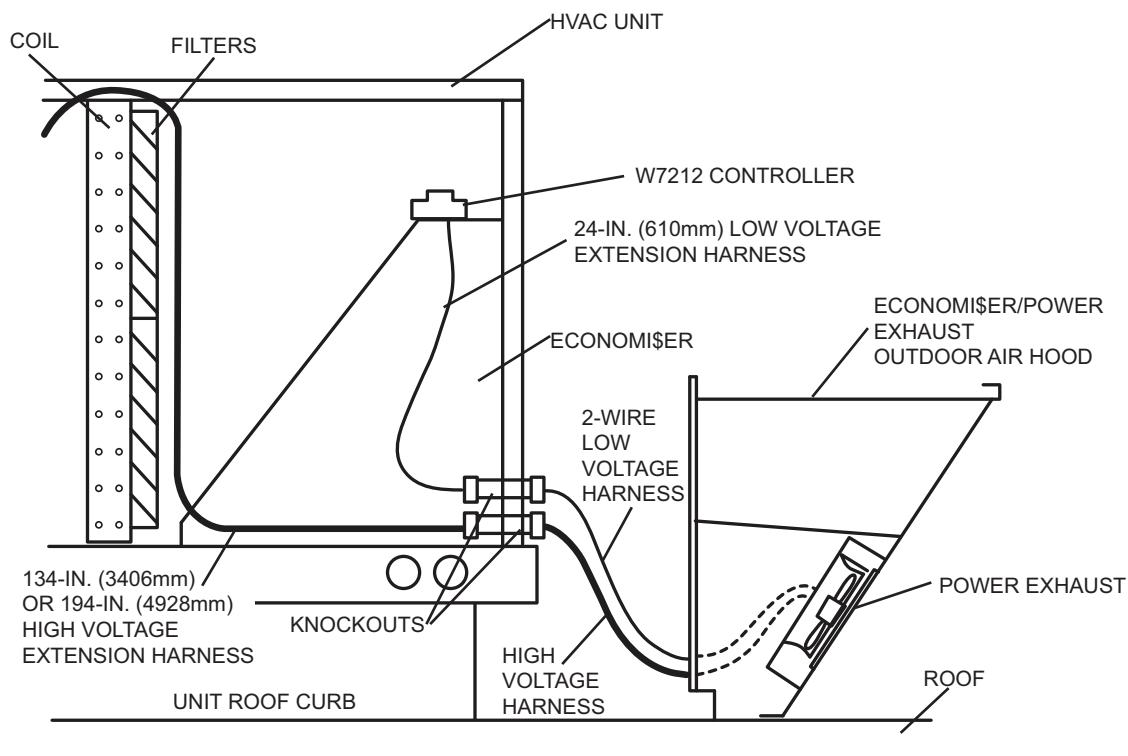

Fig. 4 — Power Exhaust Harness Installation for EconoMi\$er IV with W7212 Controller
4. *For EconoMi\$er IV:* Route the other end of the low voltage extension harness to the EconoMi\$er IV controller. (See Fig. 4.) The harness is connected to the controller by connecting the tan wire to the tan wire 24 VAC COM terminal on the controller. The terminal on the gray wire is connected to terminal EF1 on the controller. See Fig. 6 and 7 for EconoMi\$er IV wiring diagrams. Install the gray jumper wire on the controller from the exhaust fan terminal (EF), to the 24 VAC HOT terminals. The gray jumper is shipped wire tied to the control harness.